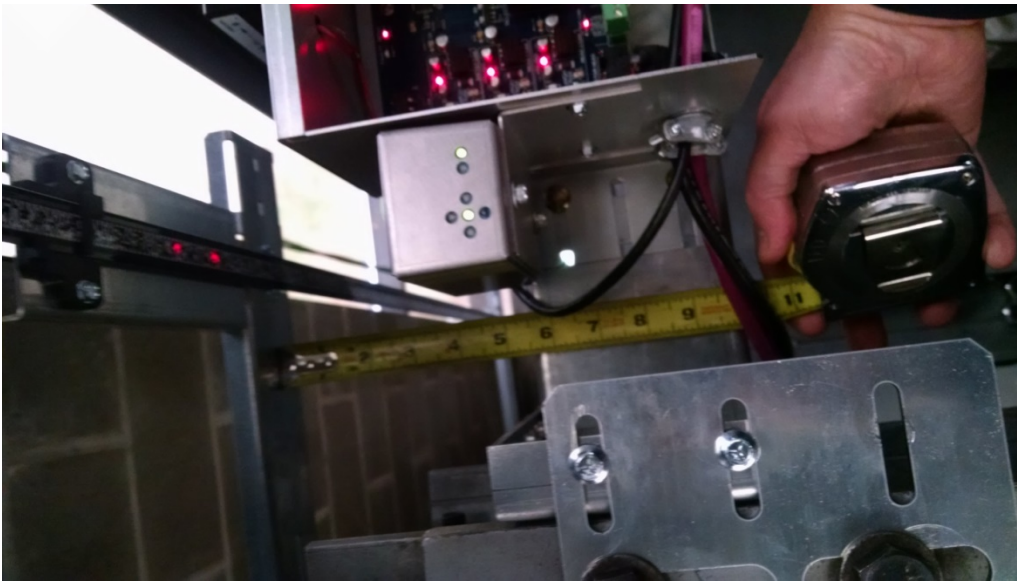

Figure 2.18: Selector Box Mounting Bracket
- The face of the bracket should be about 5 1/2 inches from the back of the rail. See Figure 2.18.